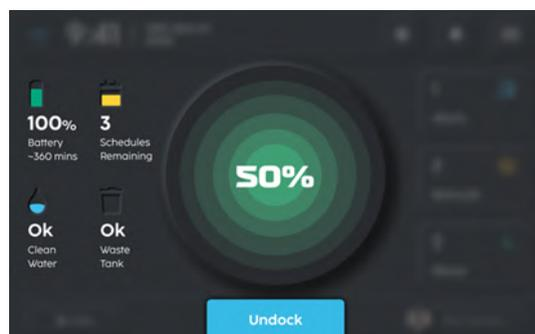

FIGURE 12-9
5. When the machine is able to start charging, the touchscreen will reflect the battery charge status (**Fig. 12-9**).
6. When the machine is able to start charging, the touchscreen will reflect the battery charge status (**Fig. 12-9**).
1. To undock the machine from the station, select the blue 'Undock' button (**Fig. 12-9**).